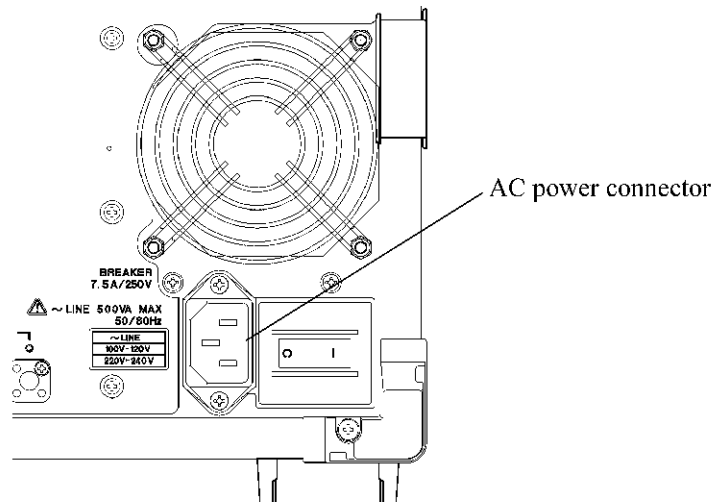

Figure 3-6 Connecting the Power Cable
2. Connect the AC power connector on the rear panel of this instrument to a three-pin power outlet that has a protected ground terminal by using the included power cable (see Figure 3-6).